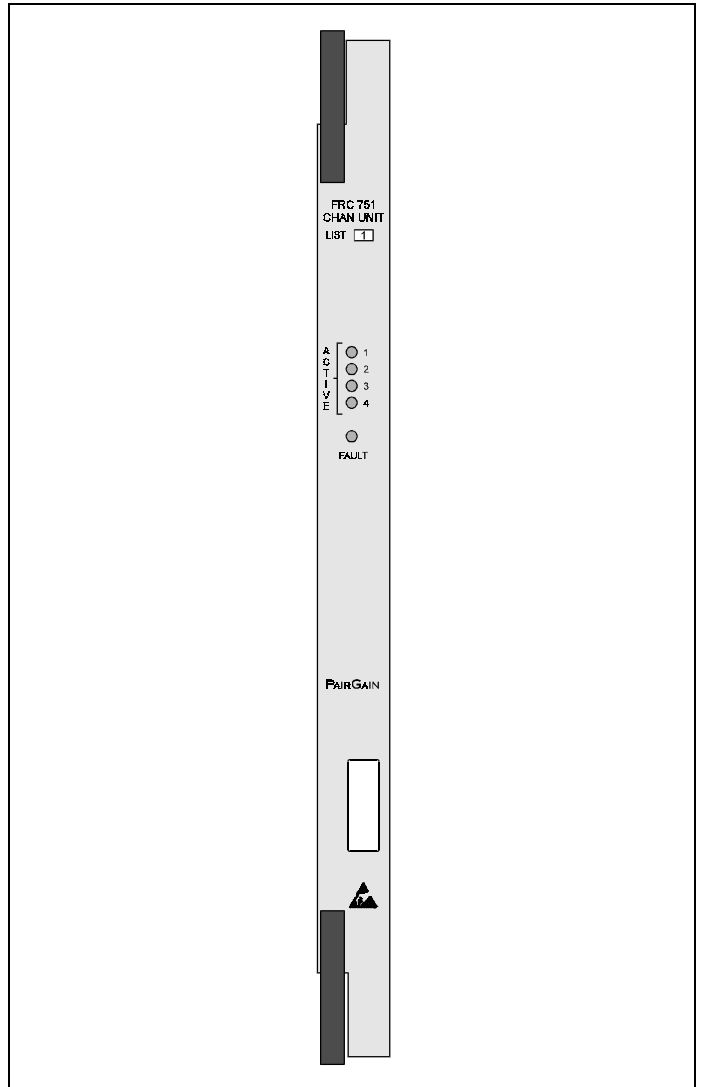

Figure 1. FRC-751 Channel Unit, List 1, Front Panel. The PairGain FRC-751 provides four POTS interfaces between a PG-Flex Remote Terminal and the subscriber.
7.01 The front panel of the FLC-751 Channel Unit contains the following indicators (see Figure 1):